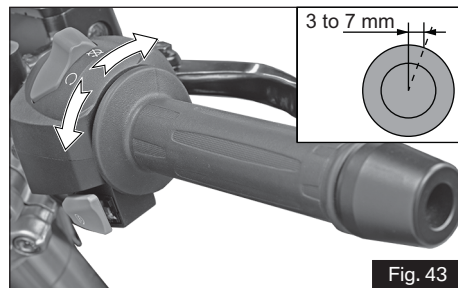

Fig. 43
- ◆ Measure the throttle cable play at the throttle grip end as shown in the figure at various position of the steering (ref. Fig. 43).